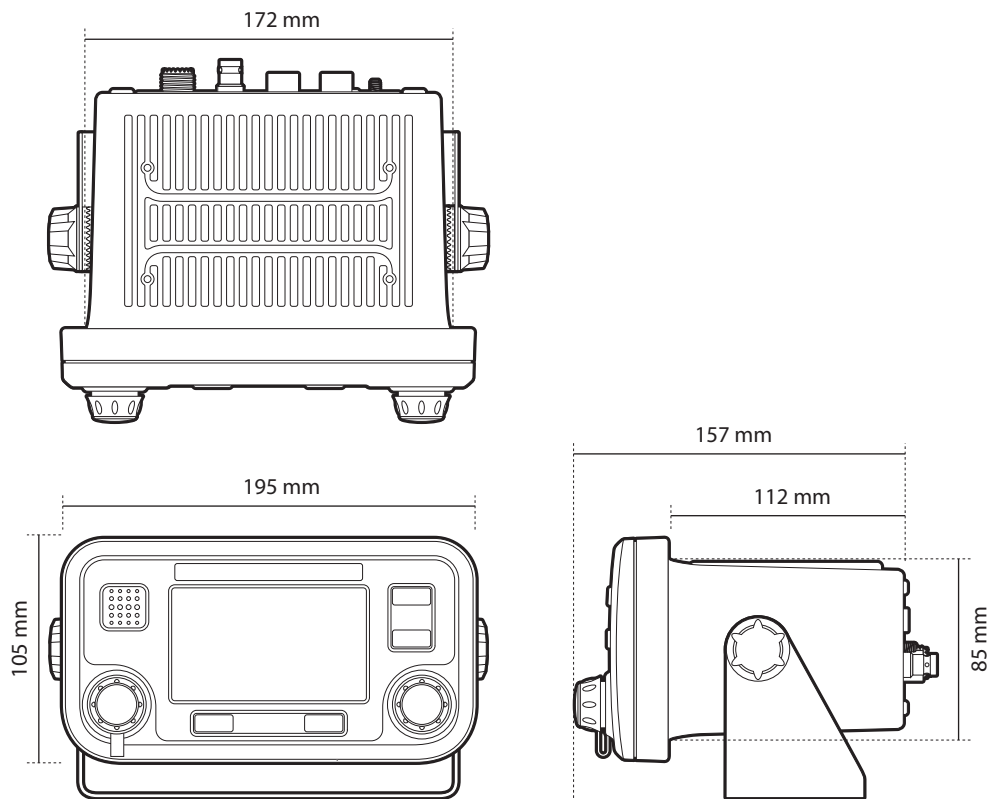

Figure 34 AIS transceiver dimensions
- There should be adequate space around the AIS transceiver for routing of cables. See Figure 34 for details of the AIS transceiver dimensions.